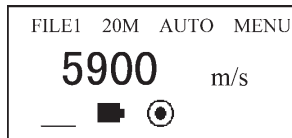

Figure 31
- a. Press MODE to move the cursor to the position shown in the figure 31